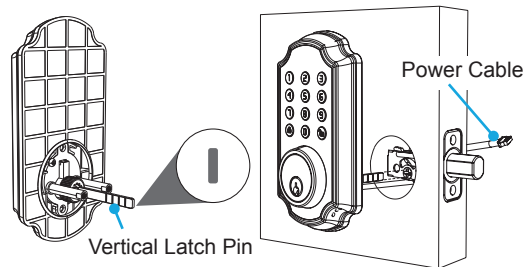

Fig. 7
**Step 2.** Start with the outside section. Turn the latch pin vertically and remove the key from the key hole. Gently feed the power cable under the latch and thread the latch pin through the square hole in latch. The latch pin must be vertical while inserting the square hole in the latch. (Fig7).